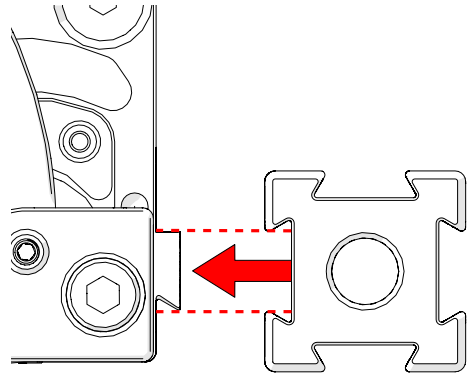

Fig. 53 - Mount frame bar
4. Press the frame bar or accessory to the swivel mount (Fig. 53) and tighten the black wing knobs.